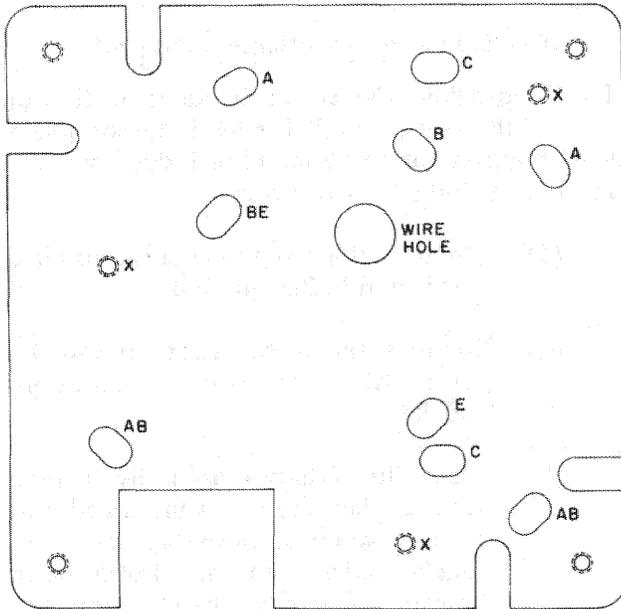

Figure 9. Outlet Box Mounting Adapter Plate.
2.06 The Type 90M Telephone Set may be installed on any one of several standard types of electrical outlet boxes, by use of a special adapter plate (Figure 9). The total material requirement in addition to the telephone set, for such an installation consists of one (556124) adapter plate which is supplied with the necessary attaching hardware included.
- (2) Pull in the station wire into the outlet box.
- (3) Pass the station wire through the wire entry hole in the adapter plate from the back.
- (4) Place the adapter plate over the outlet box. Referring to Figure 9, align the proper holes in the adapter plate with the tapped holes in the outlet box as follows:
- (5) Attach the adapter plate to the outlet box by installing the original outlet box cover securing screws in the holes aligned in Step 4.
- (6) Remove the housing of the Type 90M Telephone Set as instructed in Paragraph 4.01.
- (7) While holding the telephone set up next to the outlet box, pull the station wire through the wire entry hole in the telephone set baseplate.
- (8) Place the telephone set into position with its baseplate against the outlet box adapter plate. Align the telephone set mounting holes with the holes designated X in Figure 9.
- (9) Attach the telephone set to the adapter plate by installing three No. 8-32 x 25/64 inch long round head screws (provided with the adapter plate) in the holes aligned in Step 8.
- (10) Connect the telephone set and station wires in accordance with Paragraph 2.04, Step 7.
- (11) Install the housing on the telephone set as instructed in Paragraph 4.02.